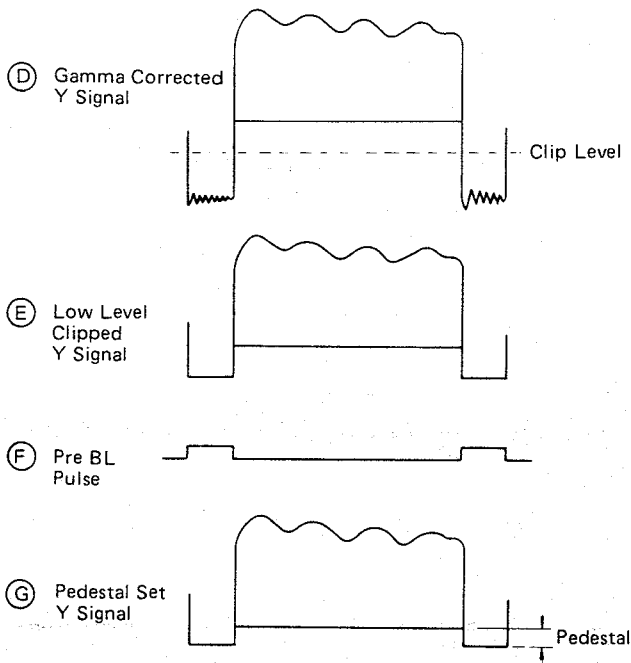

Fig. 51 Pedestal set
The Y signal (D) which undergoes gamma correction is supplied to the low level clip circuit Q305 from pin No. 2 of IC302 (See Fig. 51).